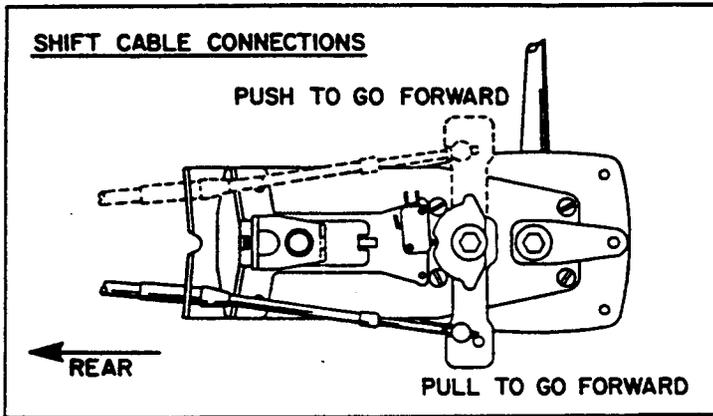

FIGURE 3
- a. Check engine clutch arm to determine whether push or pull travel is required for forward shift. See that shift arm is assembled correctly on control according to Figure 3.
- c. Screw pivot (18) onto cable rod and lubricate with grease. Allow cable rod threads to protrude through pivot 1/8" when using short travel; 1/4" when using long travel. Attach pivot to shift arm and fasten with cotter pin (19). See Figure 3 and 5. Tighten cable nut against terminal.